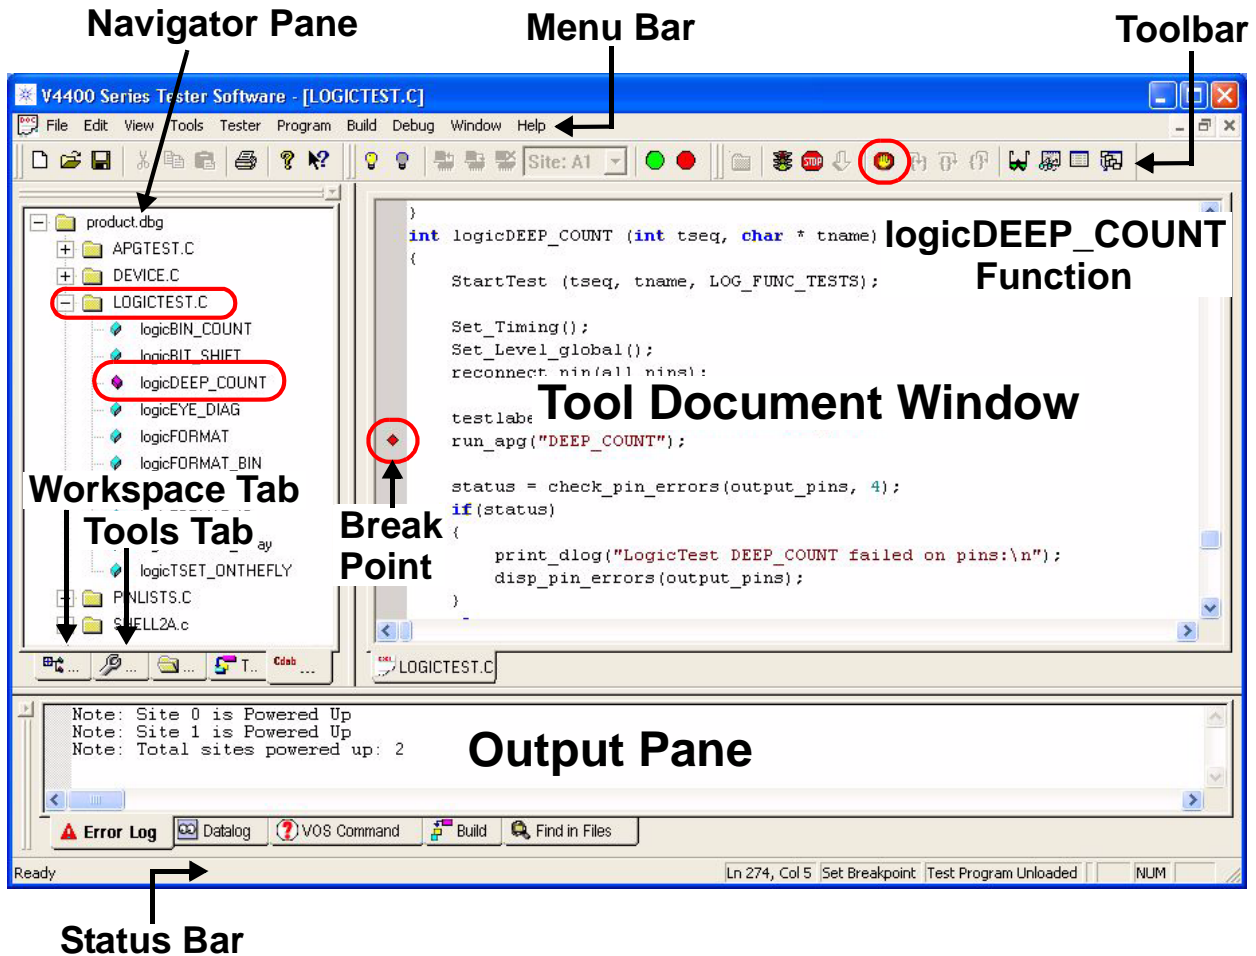

Figure 5-49. C Debugger Displaying Break Point
- 7 Navigating to and double-clicking the `LOGICTEST.C > logicDEEP_COUNT` function displays it in a window in the Tool Document Window (similar to Figure 5-49).
- 8 Before using the Pattern Tool, the test program has to be loaded and the break point needs to be set right before the `run_apg` command. Positioning the cursor in the source line shown in Figure 5-49 and selecting the `Debug > Break` command, the **F9** key, or the Break Point  button in the toolbar inserts a break point that displays as a red diamond tag in the gray margin on the left side of the source code. Note that the Status bar at the bottom of the window displays the line number (Ln) and column (Col) the cursor is active.